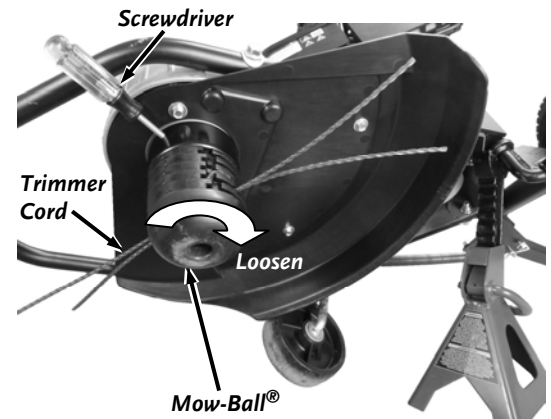

Figure 30
2. Align the hole in the Anti Wrap Canister with the hole in the internal housing at the location shown (**Figure 30**).